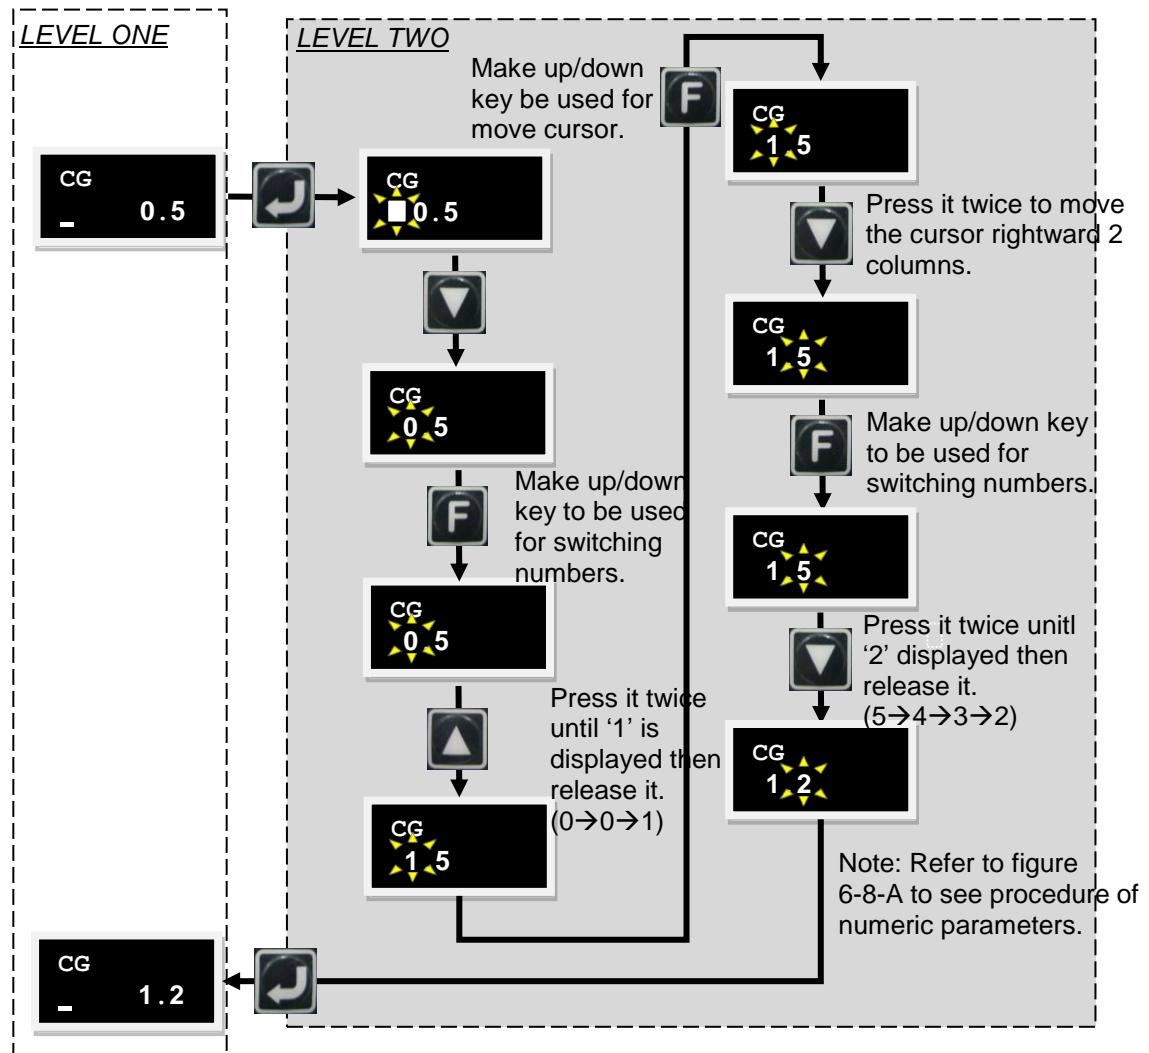

Figure 6-8 A example of COMMON GAIN of flow chart of configure parameters 以COMMON GAIN
The configurable parameters in the drive like CG, VPG, and ST(CG) etc which is assigned a number as its value could be configured using configure parameters function of LCD. In configure parameters page up and down keys are used to move cursor or switch numbers. Press the F key to switch this function. The coming introduction is for the operation procedure of the Common gain (CG) modification. Any configurable parameter could be operated as this procedure to do modification. First the common gain will be changed from 0.5 to 1.2. For example, after entering the COMMON GAIN menu, follow the below sequence. To do parameter modification and operation, the procedure is shown in Figure 6-8.
- (1) Press ENTER to enter CG configuration mode. (A flashing solid cursor will be at left side of second line)
- (2) Press the down key once to move the flashing cursor to '0' position.
- (3) Press the F key once. (Switch the function of up/down key to numeric parameters modification)
- (4) Press the up key twice until the number changes to '1' then release it.
- (5) Press the F key once. (Switch the function of up/down key to move cursor)
- (6) Press the down key twice to move the flashing cursor to '5' position.
- (7) Press the F key once. (Switch the function of the up/down key to numeric parameters modification)
- (8) Press the down key twice until the number changes to '2' then release it.
- (9) Press the ENTER key to done of COMMON GAIN changed to 1.2.